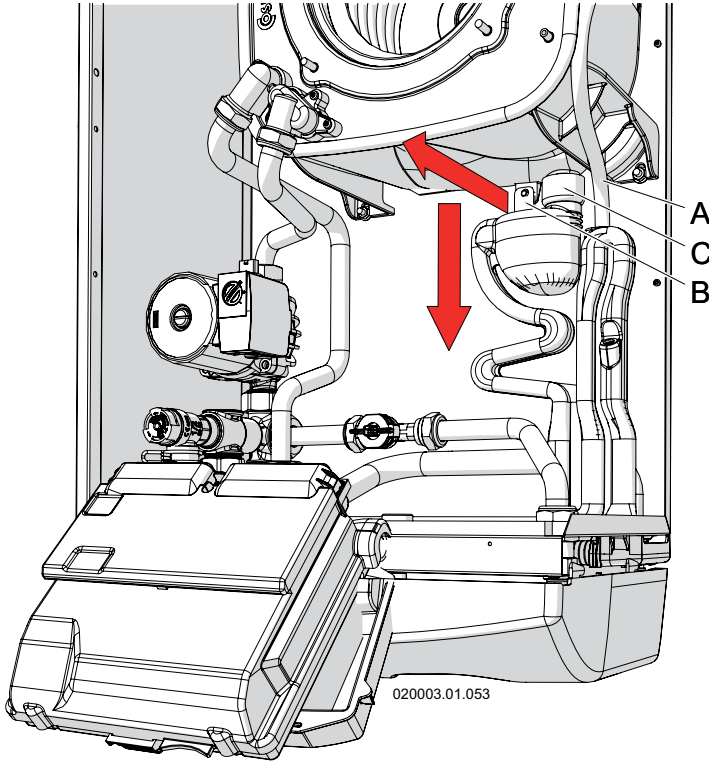

Figure 8-4 - Removal of the condensate collection siphon
- For correct cleaning of the collection siphon and the conveying of the condensate produced by combustion, operate as follows (refer to the figures 8-4, 8-5 and 8-6):